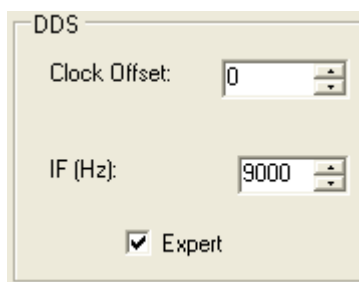

Figure 60: DDS
- To manually adjust the frequency calibration of your radio, start the internal signal generator by opening the Setup Form, Tests Tab (page 111) and checking **Enable HW Signal Generator**. Select **DSB** mode and tune VFO A to the desired frequency. With **SPLT** turned off you should see a -25 dBm signal at the VFO frequency. Change the display to the Phase display and you will see a single dot. Next, go to the Setup Form - General Tab, Hardware Config Sub Tab and check **Expert** to reveal Figure 60 above. Adjust the Clock Offset control until the dot in the phase display is (almost) standing still. Don't forget to turn the internal signal generator off, when you are done.